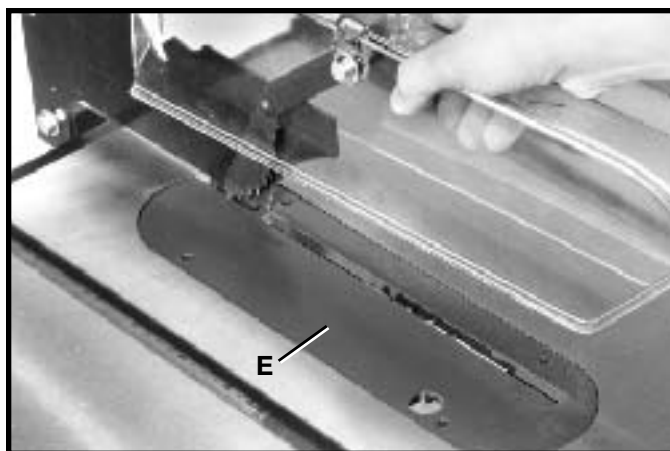

Fig. 38
13. Holding the clear blade guard, lower the saw blade and assemble the table insert (E) Fig. 38, into the opening on the saw table.